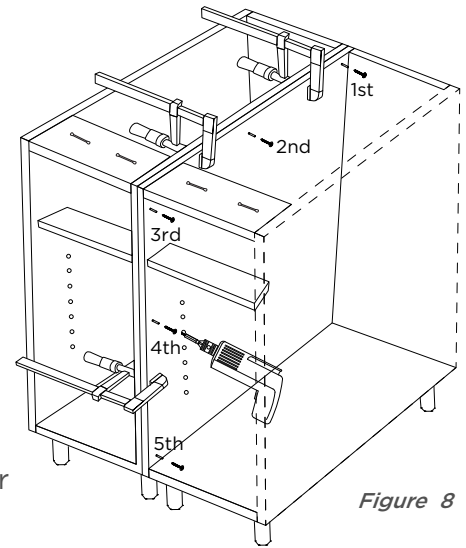

Figure 8
- On the adjacent cabinet, drill 3 pilot holes along the front and top edges. Position these holes where they are not visible, above the drawer bridge or behind the hinge plates. Insert a #8 x 1-1/4" stainless steel screw (Figure 8) into each hole and tighten securely.
- Finish by inserting screws into the center top (Figure 8). After drilling, use a countersink bit on all holes to ensure the screw heads are flush with the material surface. Sequence: drill, counter sink, insert screw and tighten (Figure 8).